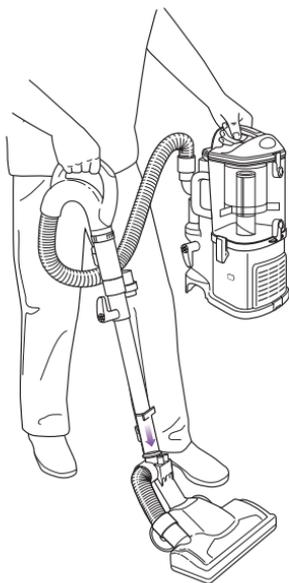

Fig. 15
- 2 Attach Motorised Floor Brush onto the end the extension wand. **(Fig. 15)**